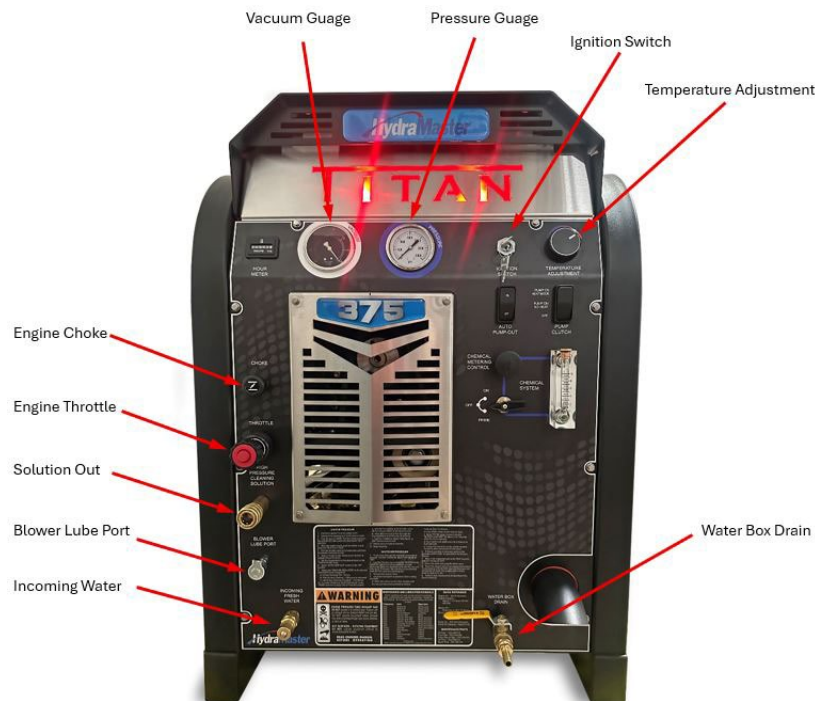

Figure 1
5. Turn the ignition key to "ON". Pull the choke and start the truckmount with the throttle cable fully depressed ("IDLE" position – see figure 1).